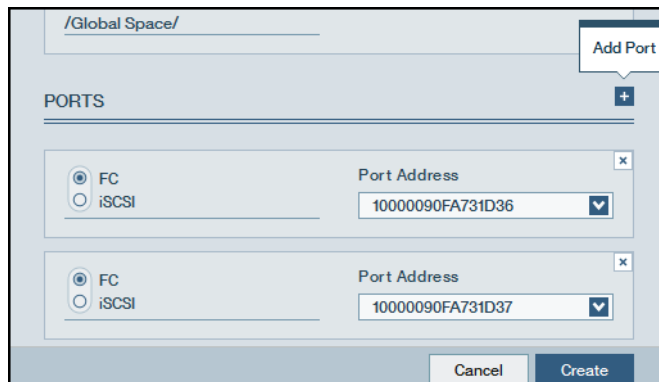

Figure 3-7 Add host ports on the destination IBM FlashSystem A9000
- Add the ports for the host. Click the plus icon (+) and fill in the port information, as shown in Figure 3-7. For this example, two ports are added using the WWPN addresses zoned to this host. When completed, click **Create**. Ensure that the details match the corresponding port details from the source IBM FlashSystem A9000. In this example, choose FC for the Port Type; the Port Addresses are 10000090FA731D36 and 10000090FA731D36.